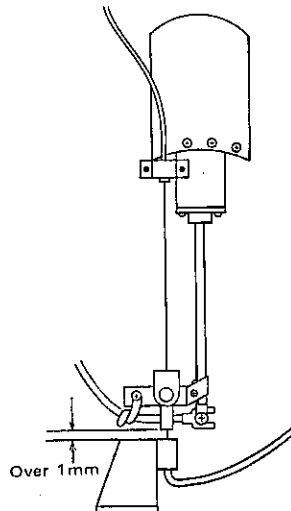

Figure 13-2 Heater Position "V"
3. With the knob set at "V" position, the distance between the heater control cable (C) and the heater wire holder should be more than 1 mm. (Figure 13-2.)